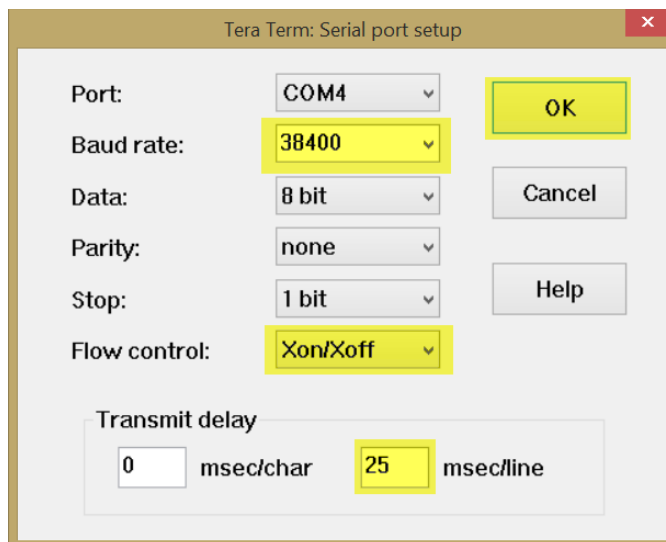

FIGURE E-8. Configuring the Com Port to Send an Operating System
3. Configure the serial port as follows (FIGURE E-8).